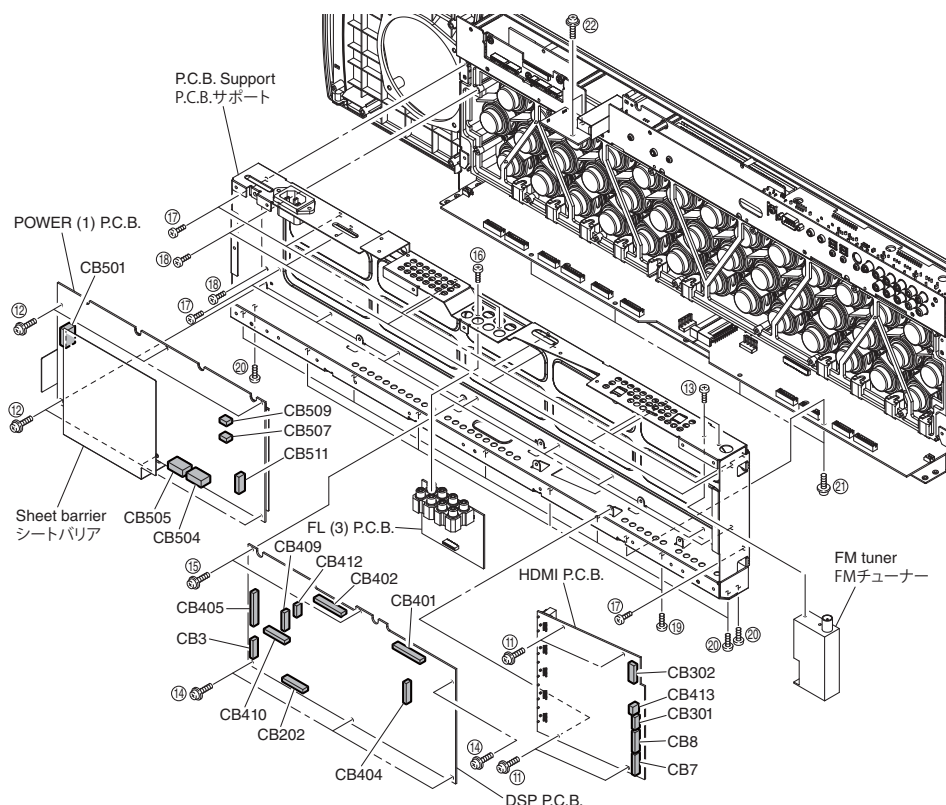

Fig. 2
- a. Remove 4 screws (11). (Fig. 2)
- b. Remove CB7-8, CB301-302 and CB413. (Fig. 2)
- c. Remove the HDMI P.C.B. (Fig. 2)
**6. Removal of POWER (1) P.C.B.**
- a. Remove 6 screws (12). (Fig. 2)
- b. Remove CB410, CB412, CB501, CB504-505, CB507-509 and CB511. (Fig. 2)
- c. Remove the POWER (1) P.C.B. together with the sheet barrier. (Fig. 2)
**7. Removal of FM tuner, DSP P.C.B. and FL (3) P.C.B.**
- a. Remove 2 screws (13). (Fig. 2)
- b. Remove CB404. (Fig. 2)
- c. Remove the FM tuner. (Fig. 2)
- d. Remove 4 screws (14) and 2 screws (15). (Fig. 2)
- e. Remove CB3, CB202, CB401-402 and CB406-407. (Fig. 2)
- f. Remove the DSP P.C.B. (Fig. 2)
- g. Remove 2 screws (16). (Fig. 2)
- h. Remove the FL (3) P.C.B.. (Fig. 2)
- a. Remove 8 screws (17). (Fig. 2)
\* Screws (17) are identified with arrow marks (⇒). (Fig. 2)
- b. Remove 14 screws (18). (Fig. 2)
\* Screws (18) are identified with marks (P). (Fig. 2)
- c. Remove 4 screws (19), 7 screws (20), 4 screws (21) and 2 screws (22). (Fig. 2)
- d. Remove the P.C.B. support (Fig. 2)
- a. ⑪ のネジ 4 本を外します。(Fig. 2)
- b. CB7-8、CB301～302、CB413 を外します。(Fig. 2)
- c. HDMI P.C.B. を取り外します。(Fig. 2)
**6. POWER (1) P.C.B. の外し方**
- a. ⑫ のネジ 6 本を外します。(Fig. 2)
- b. CB410、CB412、CB501、CB504～505、CB507～509、CB511 を外します。(Fig. 2)
- c. POWER (1) P.C.B. をシートバリアと一緒に取り外します。(Fig. 2)
**7. FM チューナー、DSP P.C.B.、FL (3) P.C.B. の外し方**